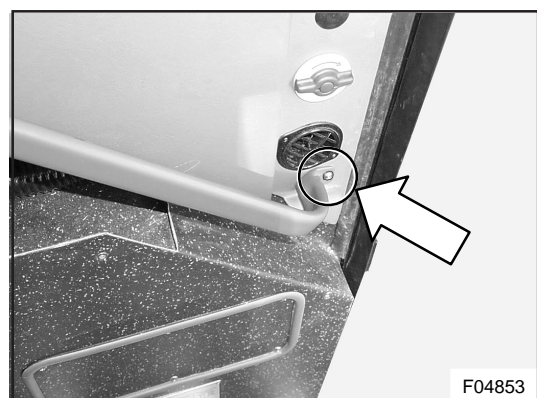

**Figure 6: Dash panels at right-hand side of entrance**
1. Remove the four screws of the central dash panel (see Figure 6). Take away the central dash panel.